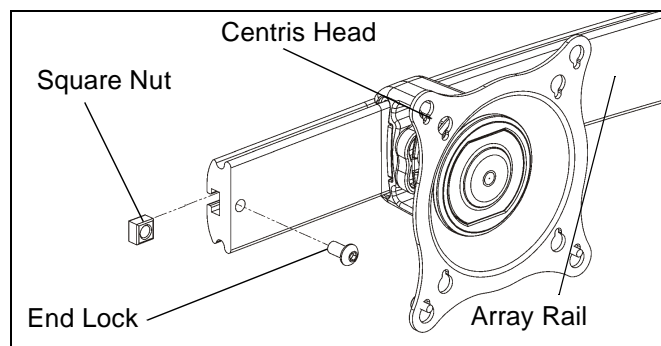

Figure 3
1. Uninstall end lock using the 5/32" hex key (N). (See Figure 3)